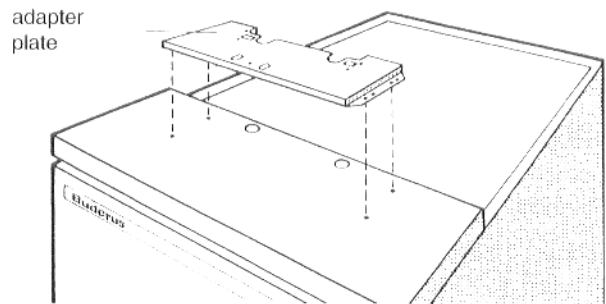

Fig. 9 - Schematic illustration
- Position an adapter plate on the front boiler hood and screw on with four self-tapping screws (Fig. 9).